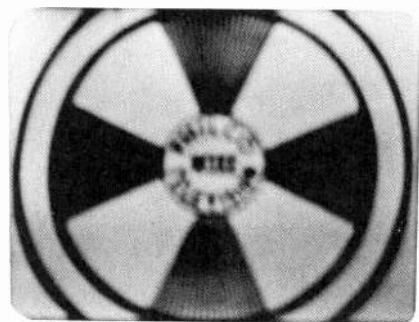

Fig 1-F. *Blurred pix due to poor focus.*
**SYMPTOMS:** Improper focus, resulting in blurred pix. See Fig. 1-F.